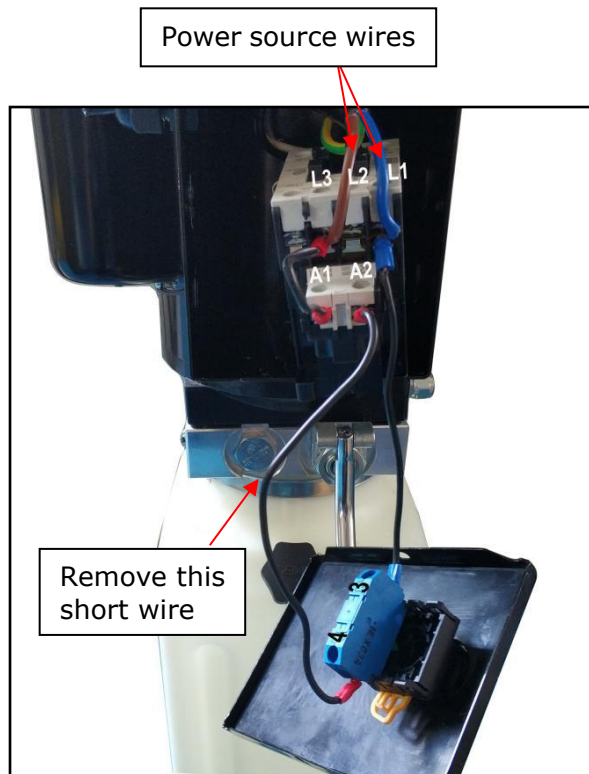

Fig. 39
2. Connecting the limit switch wire: Remove the short wire that connects # 4 and # A2 as shown in Fig.39. Then according to the wire number of the limit switch, connect them respectively to terminal 4# of control button and A2# of AC contactor.